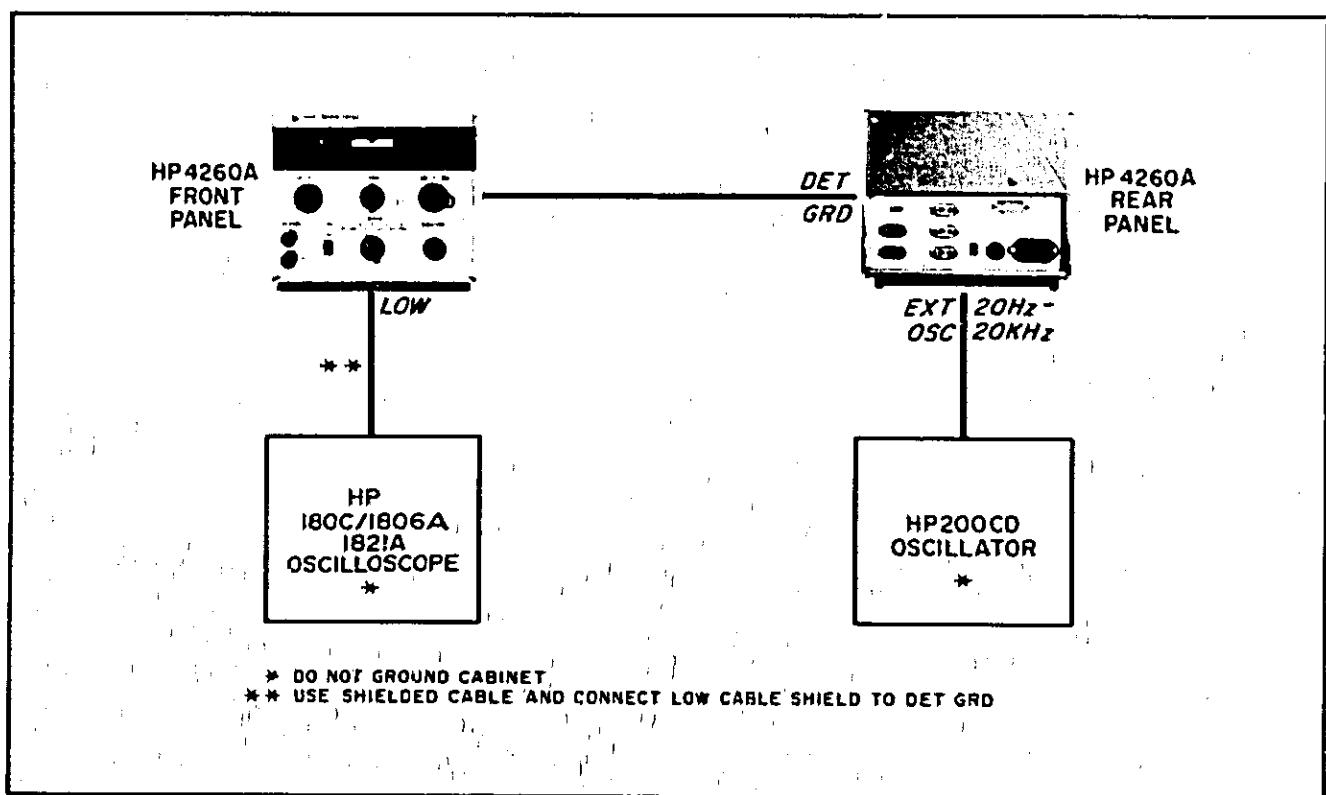

Figure 5-5. Test Setup for Adjustments
- 5-30. INTRODUCTION. The procedures in Paragraphs 5-31 through 5-38 outline checks and adjustments for the components in the bridge circuit. These include fixed 0.2 μF capacitor C1, compensating capacitor C305, CRL resistor R3, trimmers C103, C104, C3, and accuracy of resistors in the RANGE switch. The test equipment setup is shown in Figure 5-5. These checks and adjustments should be performed in the order listed when a comprehensive overall instrument checkout is desired. Test equipment for these checks is listed in Table 5-6.
5-31. C1 CHECK. To check fixed bridge capacitor C1, connect the instruments as shown in Figure 5-5.
a. Connect the test setup as shown in Figure 5-5.
a. Connect test equipment setup as shown in Figure 5-5.
- a. Connect test equipment as shown in Figure 5-5.
- a. Connect test equipment setup as shown in Figure 5-5.
- a. Connect test setup as shown in Figure 5-5.